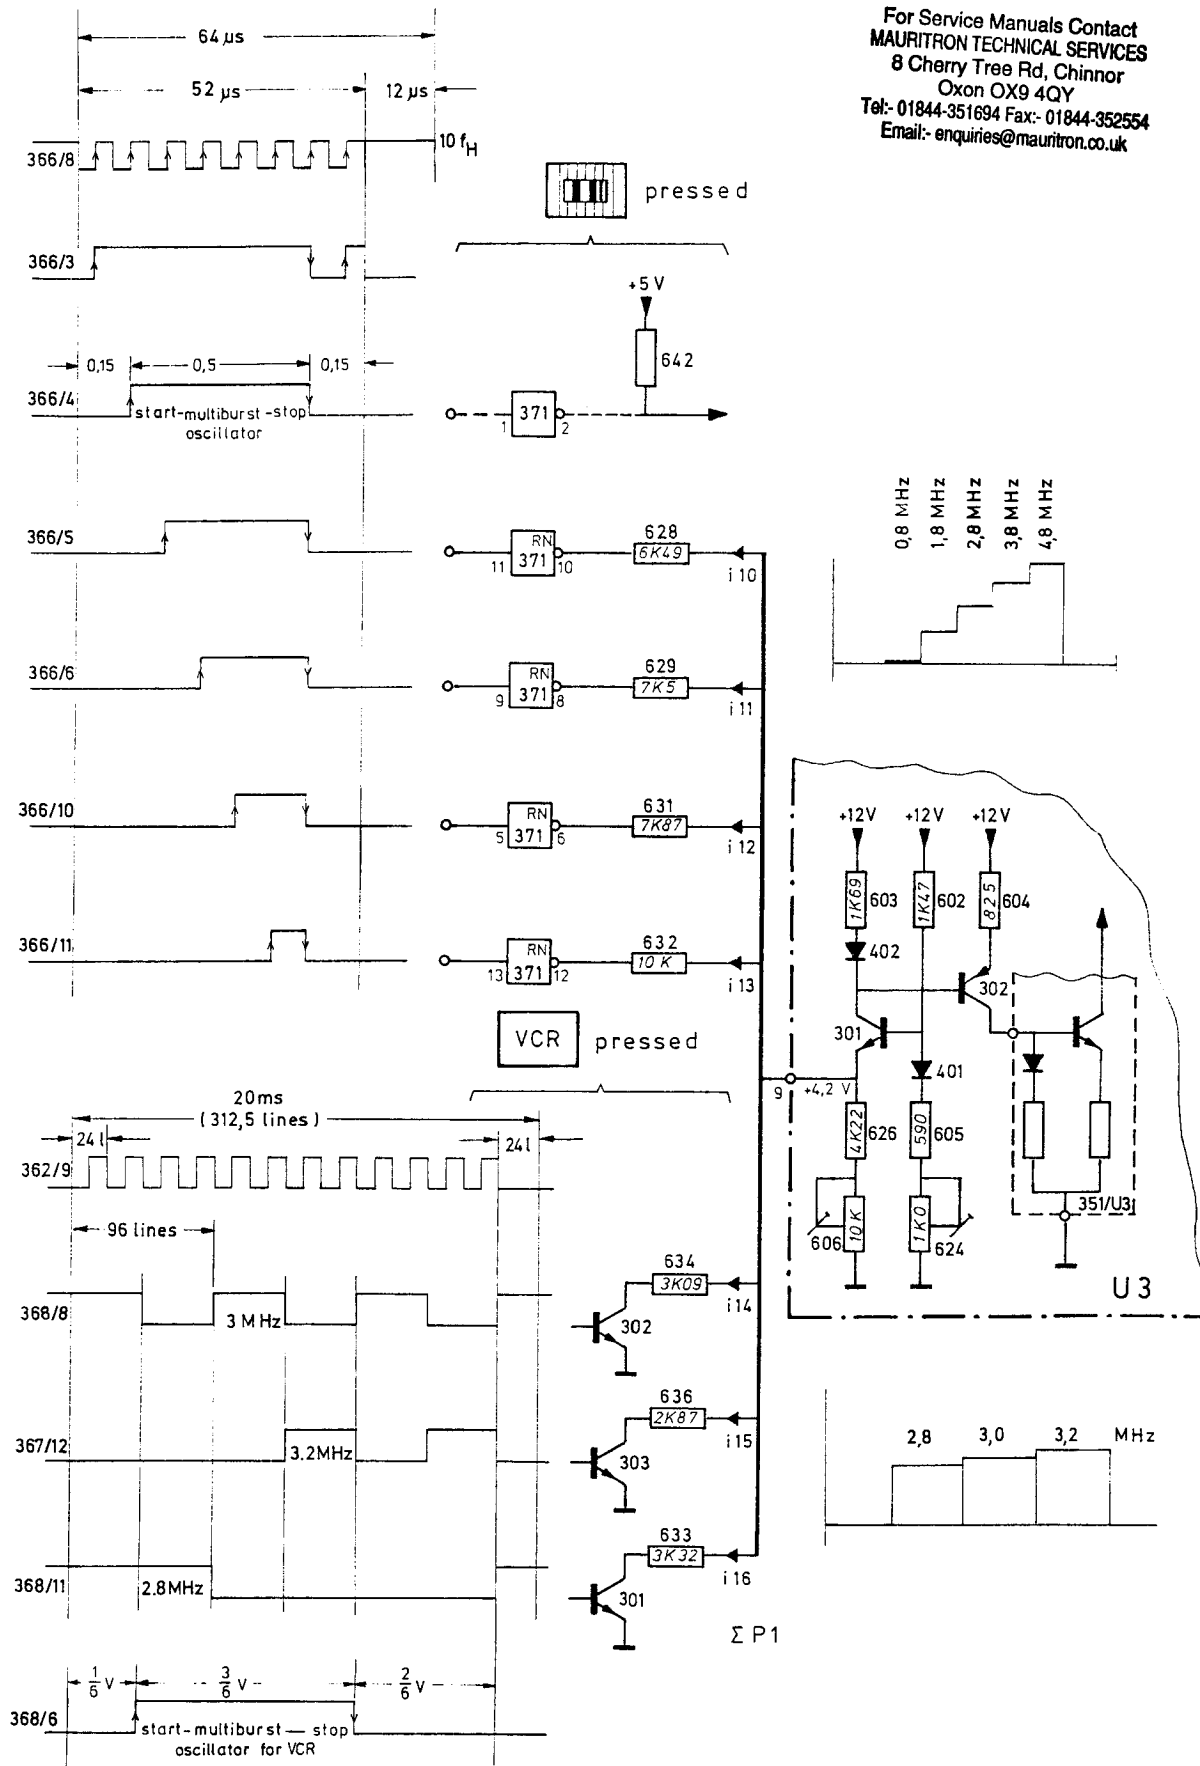
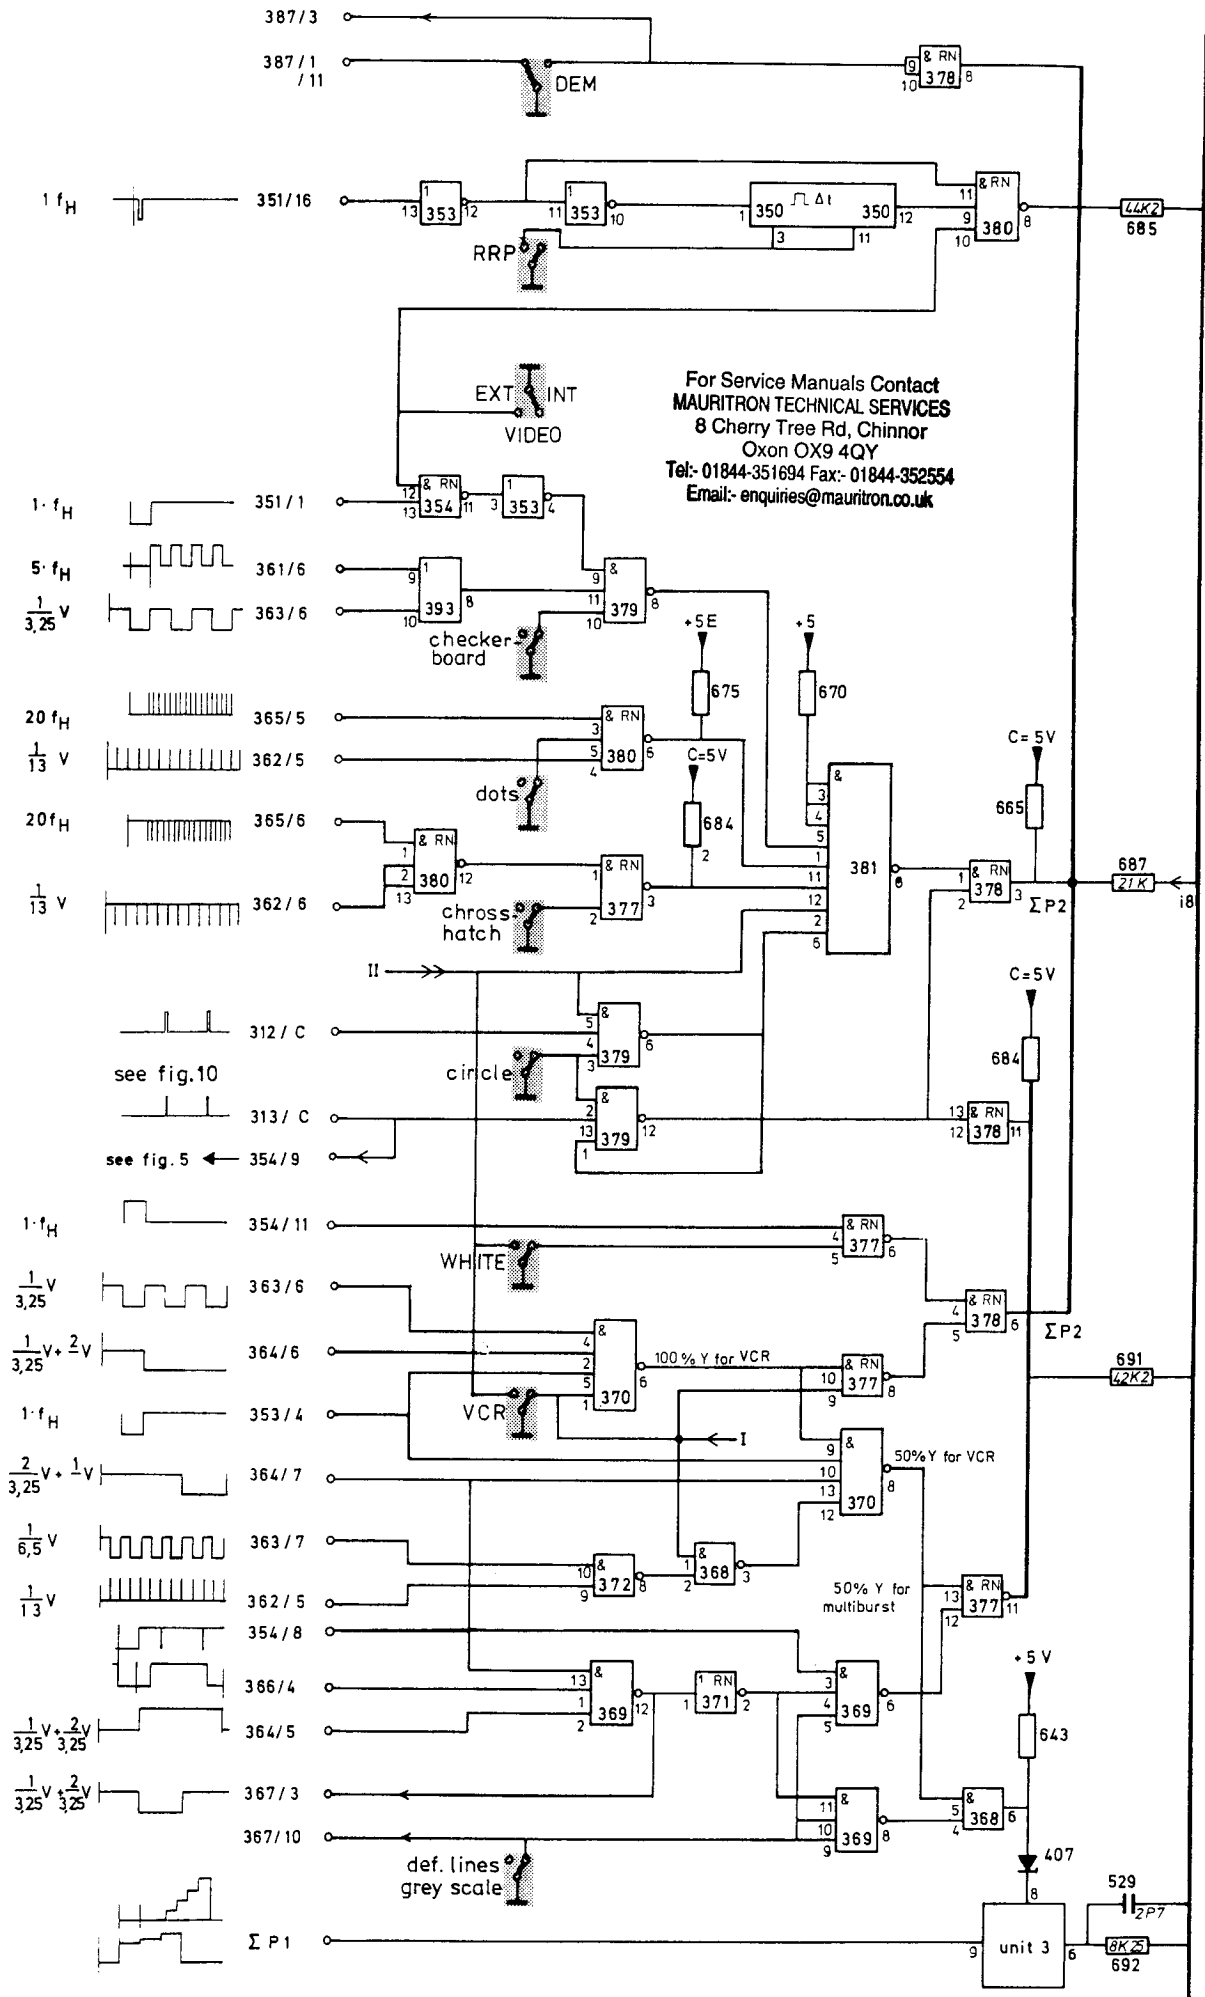

Fig. 9 Control signals for multiburst oscillator
Fig. 11 Digital addition of the BL/WH pattern
The staircase signals for control of the multiburst oscillator, input unit 3 in fig. 9, are generated by summing the components of the generator 366/4/5/6/10/11 for the 5 vertical bars with different frequency groups (definition lines).
- 2.2.4.1. **In line rhythm** the inputs of the inverters 371/11/9/5/13 progressively receive H-level and thus 'switch' the concerning resistors, connected to the summing point  $\Sigma P1$ , via 371/... single-ended to ground. By this the summing point, being at a dc level of 4.2 V, is deprived of current, compensated by the input stage. In principle this input circuitry of the multiburst oscillator is a current/voltage/current converter, fig. 9.
The pulses which generate the stepwise increasing current into pin 9/U3 are shown in fig. 9. Just as this current the multivibrator frequency changes too (5 groups or 3 groups).
### 2.2.6. Synthesis of the Black/White test patterns, figs. 11 and 12
Fig. 11 shows the connections between the required components for activation and inhibition of the chosen test pattern and the connection to the digital summing junction  $\Sigma 2$ . This summing junction  $\Sigma 2$  is connected to the main summing junction  $\Sigma 3$  via the resistor 687/U10, determining the amplitude. The potential of  $\Sigma 3$  is +5 V; 100 % White means no current through resistor 687/U10 and high level at  $\Sigma 2$ .
The gates 379/6, 380/6, 377/3 (see fig. 11) are inhibited, because of low level at one input of each gate. The NAND-gate 381/8 couples the square wave signals  $5 f_H$  (393/9) and  $1/3.25 V$  (393/10) to the summing junction  $\Sigma 2$ , if no other pushbutton (VCR, white) is depressed. The AND-gate 393/8 combines the horizontal checkerboard pulses  $5 f_H$  with the vertical  $1/3.25 V$  pulses to 8 vertical checkerboard-bars and 6 horizontal one's. White pattern squares are generated, if  $5 f_H$ ,  $1/3.25 V$  and the blanking signal  $f_H$  have high level. So the NAND-gate 379/8 gets low level, NAND-gate 381/8 high level and the current in resistor 687/U10 is inhibited.
The gates 381 and 378/3 are combining the circle pulses with all test-pattern signals generated in this section (fig. 11). In the white squares of the checkerboard circle pulses 312/C are engraved by 379/6 (pulse width 312/C being larger than 313/C). In this engraved black circle the white circle 313/C is added by 379/12 and 378/2.
The NAND-gates 370/6, 377/8 and 368/3 are inhibited by the VCR switch (see fig. 11); the output level is high. By combination of the vertical signals 364/7 and 364/5 the vertical start-stop signal for the multiburst oscillator in 368/6 is generated. The horizontal start-stop signal is given by the signals in fig. 9. The composite blanking signal 353/4 stops the luminance during the blanking time. Above mentioned signals are combined with the composite blanking signal 354/8 (signal includes the circle blanking, if circle push-button is depressed) to the 50 %-Y signal (luminance) in the NAND-gate 377/11. The current 50 %-Y is coupled by resistor 691/10 to  $\Sigma P2$ . The grey scale is described in 2.2.4.3.
The summing junction  $\Sigma P2$  has low level via AND-gate 378/8, fig. 11.
The depressed VCR pushbutton (fig. 11) enables the NAND-gates 370/6, 377/8 and 368/3 and disables the NAND-gates 379/6 and 381/8. The signals 363/6 and 364/6 are combined in 370/6 to a 1/6 V pulse, which switches the 100 % white to  $\Sigma P2$ . The following 3 horizontal bars are separated by a "one-line"-blanking pulse (black luminance). This special signal is generated by combination of the signals 363/7, 362/5, 364/7 and 353/4 and helps to see the limits between the 3 horizontal bars of frequency groups (2.8, 3.0 and 3.2 MHz). The required composite-blanking signal 354/8 (signal includes circle blanking pulses, if pushbutton "circle" is depressed) is coupled via the NAND-gate 369/6.